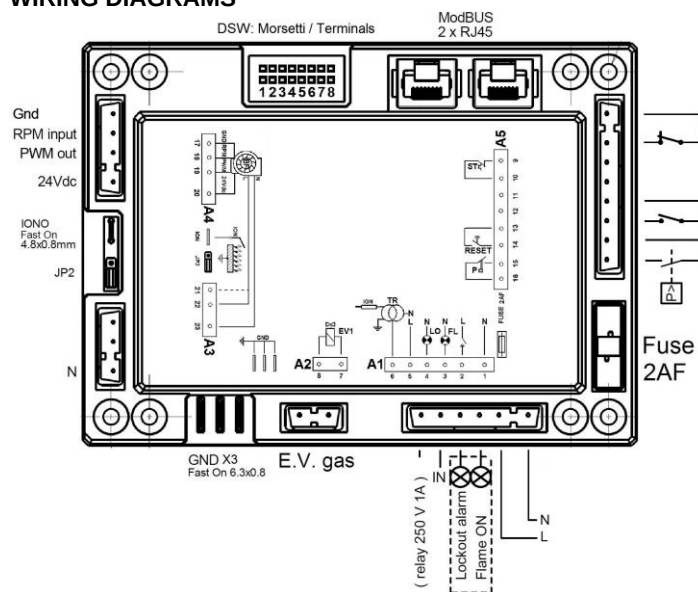

Fig.4 APOTM31
- polarized power supply (phase sensitive device), JP2 in open position to right (see JP2 fig.4/5).